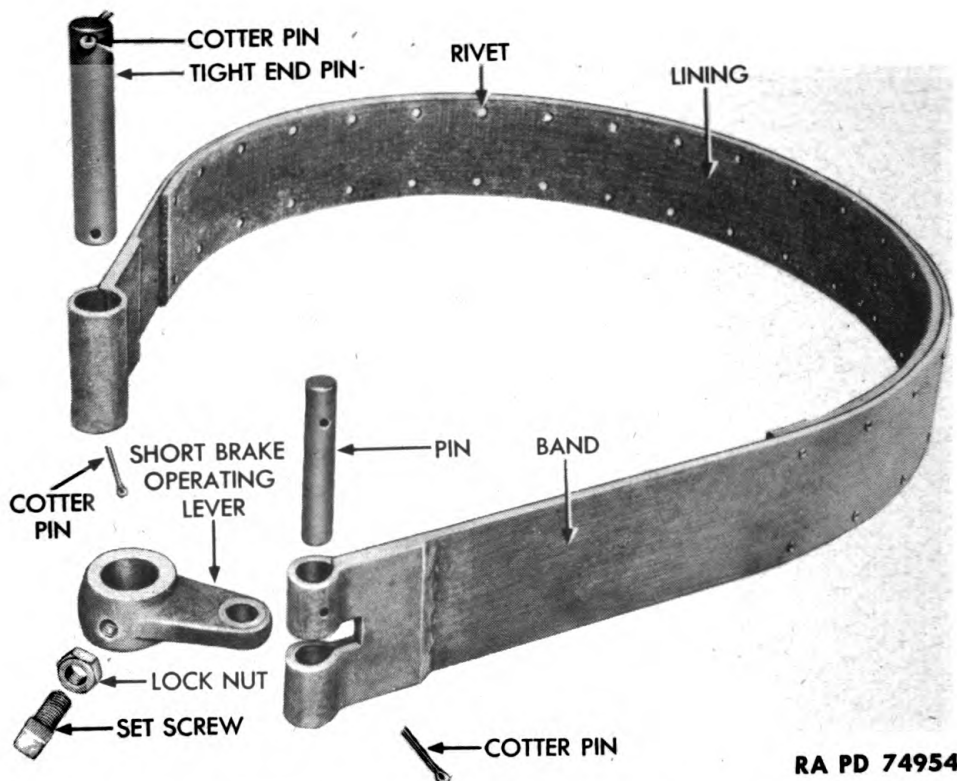

Figure 42 — Brake Band — Disassembled
o. Remove Drum Brake Band Assemblies (fig. 42). Remove cotter pin from tight end pin at end of brake band assembly, and drive pin from brake band and brake anchor. Loosen set screws on two operating shaft collars and short brake operating lever, and pull brake operating shaft with operating lever attached from brake anchor
a. **Disassembly** (fig. 42). Remove cotter pin which holds tight end pin and short brake operating lever to brake band. Remove lock nut and set screw from end of short brake operating lever.
c. Assembly (fig. 42). Install short brake operating lever, and secure to band with tight end pin and cotter pin. Install set screw and lock nut in end of short brake operating lever.